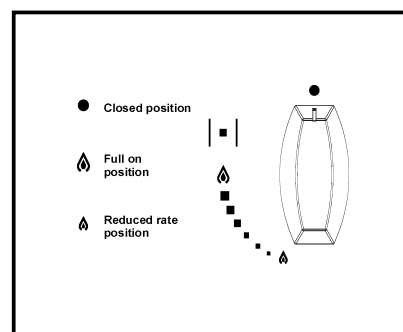

FIG. 9
1. To light the hotplate push in the appropriate control knob and turn anti-clockwise to the large flame symbol (fig. 9).